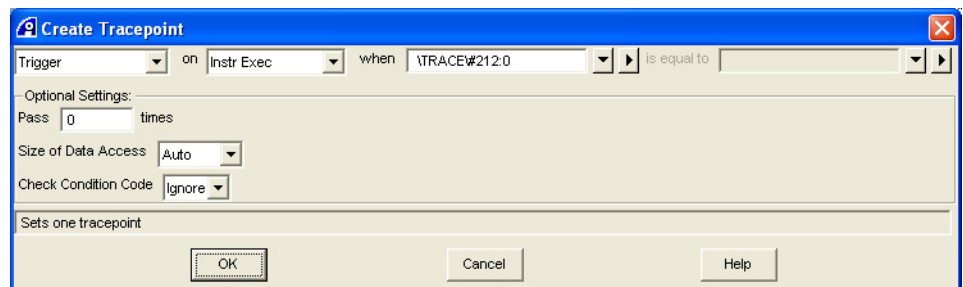

Figure 7-2 Create Tracepoint dialog box
2. Select **Create Tracepoint...** from the context menu to open the Create Tracepoint dialog box. Figure 7-2 shows an example: